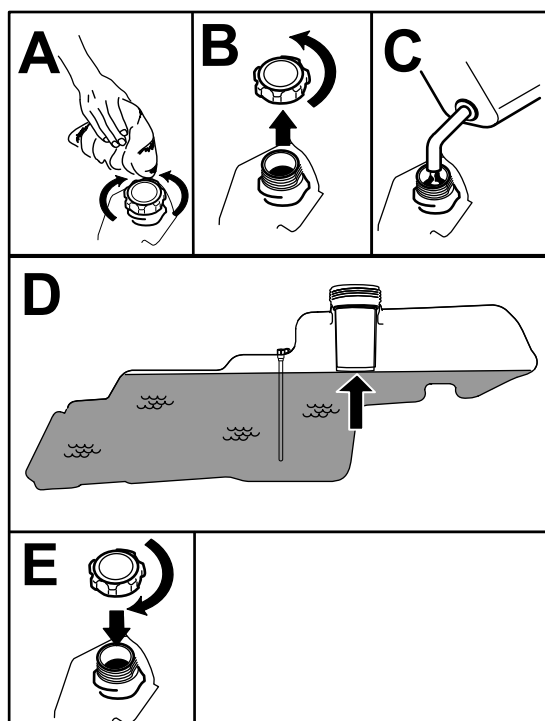

Figure 8
- Fill the fuel tank to the bottom of the filler neck (Figure 8). Do not fill the fuel tank completely full.